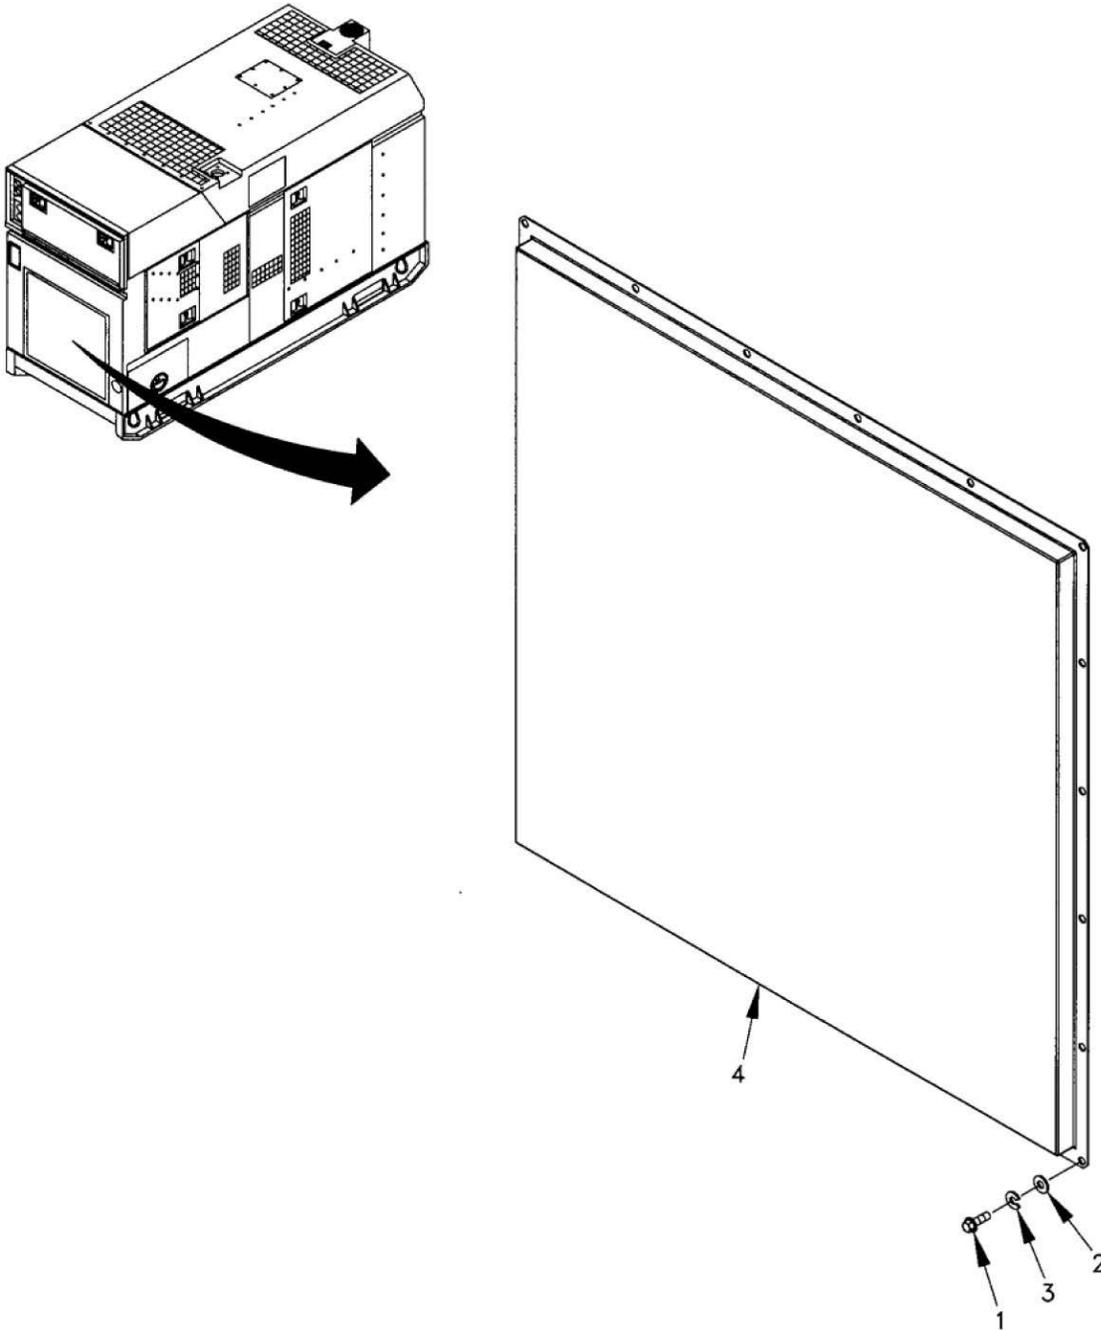

Figure 1. Generator Access Cover Assembly.
Remove 20 screws (Figure 1, Item 1), washers (Figure 1, Item 2), lock washers (Figure 1, Item 3), and generator access cover assembly (Figure 1, Item 4).
1. Install generator access cover assembly (Figure 1, Item 4) and secure with 20 lock washers (Figure 1, Item 3), washers (Figure 1, Item 2), and screws (Figure 1, Item 1).